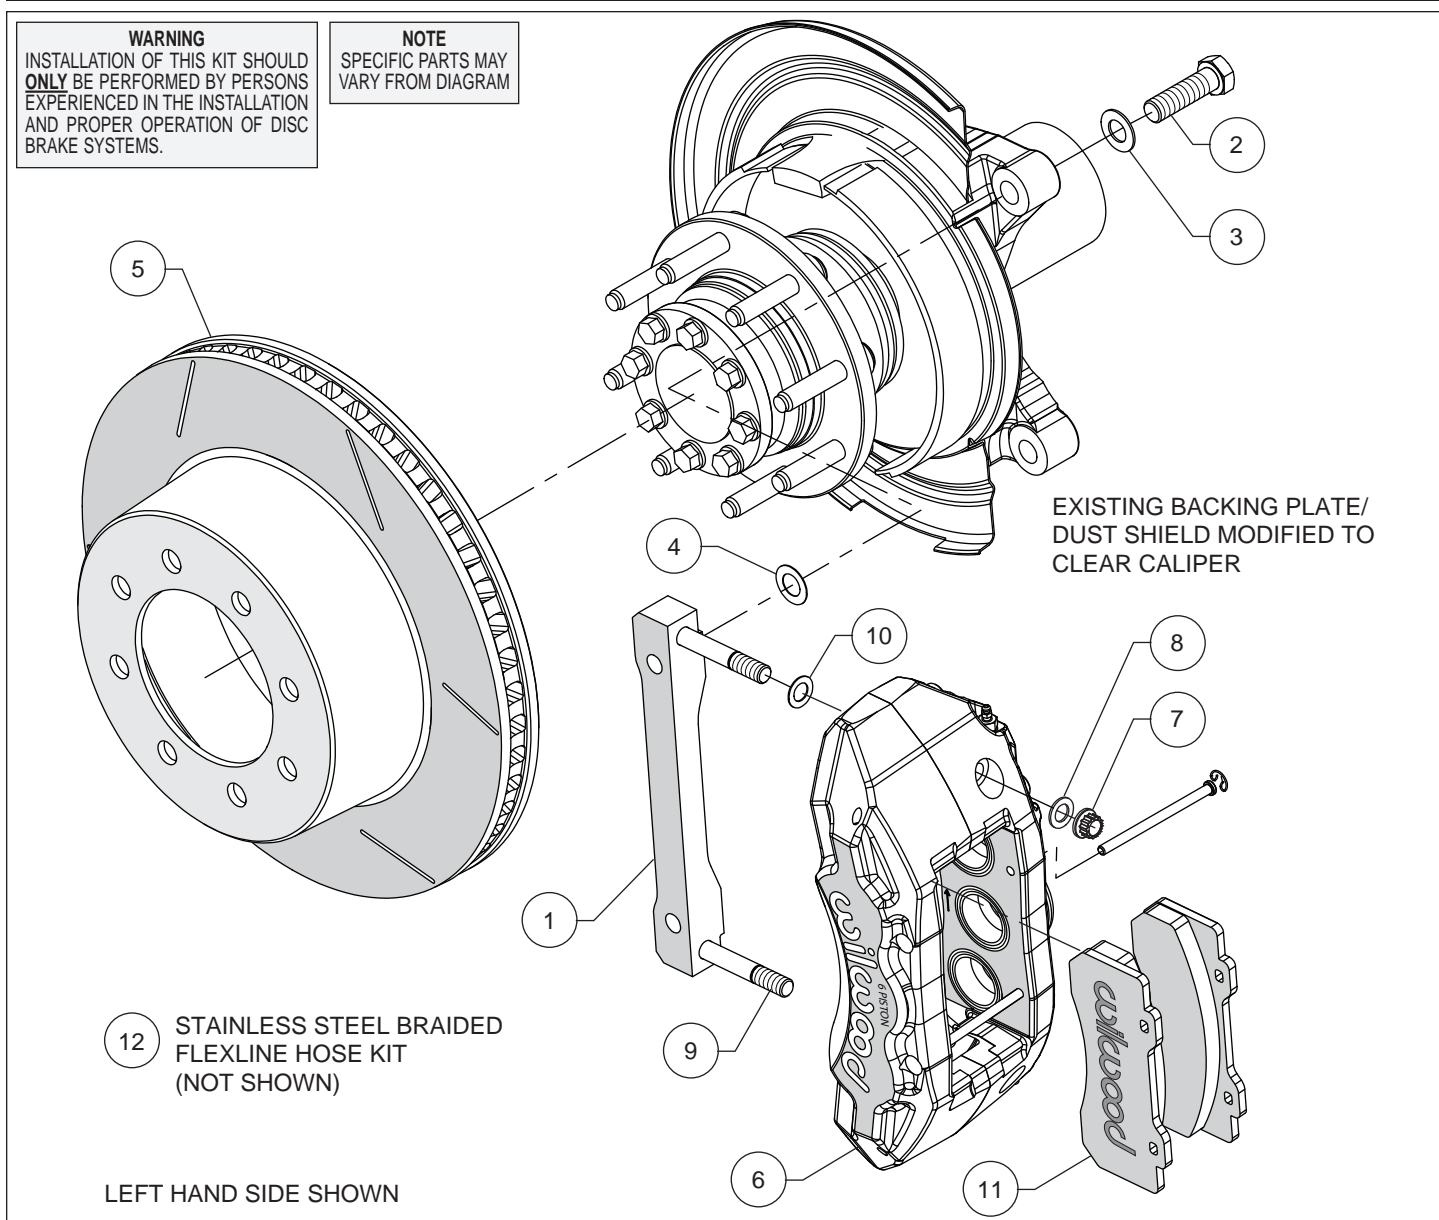
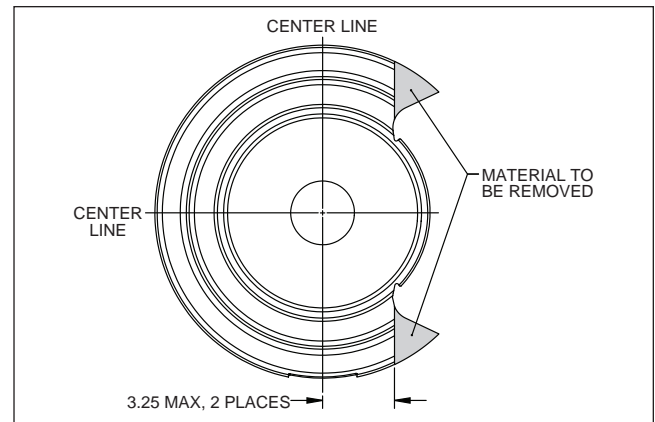

Figure 1. Typical Installation Configuration
Figure 3. Backing Plate / Dust Shield Modifications
- The rear backing plate/dust shield needs to be modified as shown in Figure 3 to clear the new Wilwood caliper mounting bracket (1). **NOTE:** It is recommended that the backing plate be removed before modification, and the modifications be performed by a qualified machine shop. After backing plate removal, cut the dust shield 3.25" maximum from the vertical center line as shown in Figure 3. Temporarily mount the caliper mounting bracket as shown in Figure 1. Examine the fit of the bracket against the OE caliper mounting tabs and verify that the bracket mounts flush.
Assembly Instructions (numbers in parenthesis refer to the parts list and Figure 1 on the preceding pages):
- The caliper mount bracket (1) should initially be installed with clean, dry threads on the mounting bolts. Orient the bracket as shown in Figure 1 and Photo 1, and install using bolts (2) and washers (3). Initially place one .024 thick shim (4) on each bolt between the bracket and upright, Figure 1. Temporarily tighten the mounting bolts. **NOTE:** The bracket must fit squarely against the mount bosses on the upright. Inspect for interference from casting irregularities, machining ridges, burrs, etc. Later, after the caliper alignment has been checked, the mount bolts will be secured using red *Loctite*[®] 271.
- NOTE:** This kit contains distinct right and left hand calipers that must be mounted in a specific direction, as described below. Lubricate the caliper mounting studs (9) with lightweight oil. Initially place one .032" thick shim (10) on each stud as shown in Figure 1 and Photo 2. Mount the caliper (6) onto the bracket (1) using lock nuts (7) and washers (8), Figure 1. Ensure that the caliper is mounted so that the largest pistons are at the rotor exit end of the caliper, in relation to the direction of rotor rotation. Temporarily tighten the lock nuts and view the rotor through the top opening of the caliper. The rotor should be centered in the caliper, Photo 3. If not, adjust by adding or subtracting shims (4) between the bracket and the upright. Always use the same amount of shims on each of the two mounting bolts. Once the caliper alignment is correct, remove the bracket mounting bolts (2) one at a time, apply red *Loctite*[®] 271 to the threads, and torque to 120 ft-lb.